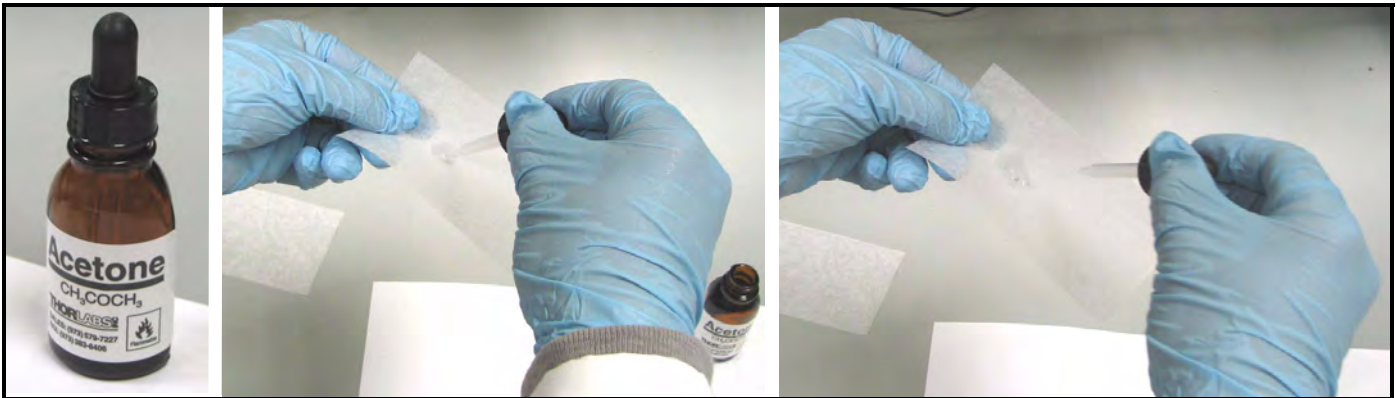

Figure 78: Using Analytical Grade Acetone
7. Using a piece of lens tissue, wet a small area with a very small amount of Analytical Grade Acetone. (Barely wet the lens tissue. Typically, one drop of Acetone will suffice.) Tilt the lens tissue so that the acetone drop is absorbed by the lens paper along the length of the piece (see Figure 78).